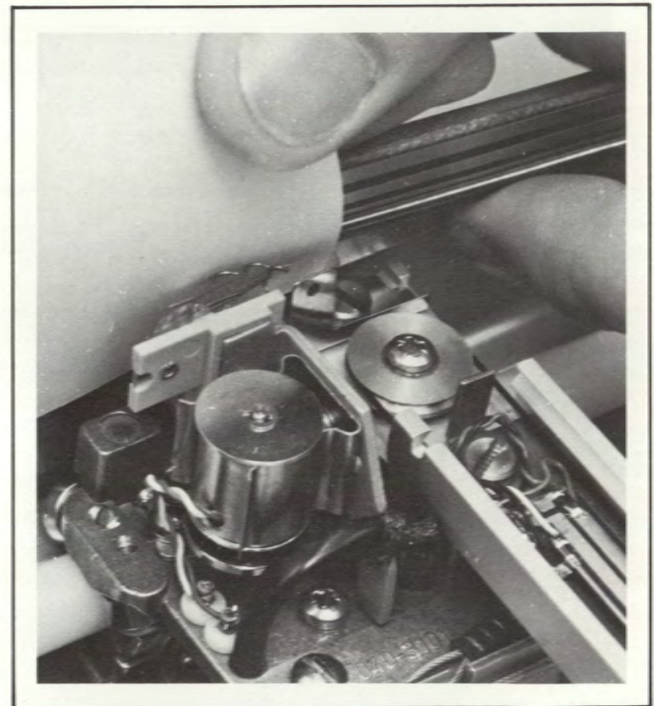

FIGURE 3-7. WIPER PROTECTION
- c. Remove wiper assembly mounting screw and install new wiper (Part No. 09125-80170). Protect slidewire using technique shown in Figure 3-7.